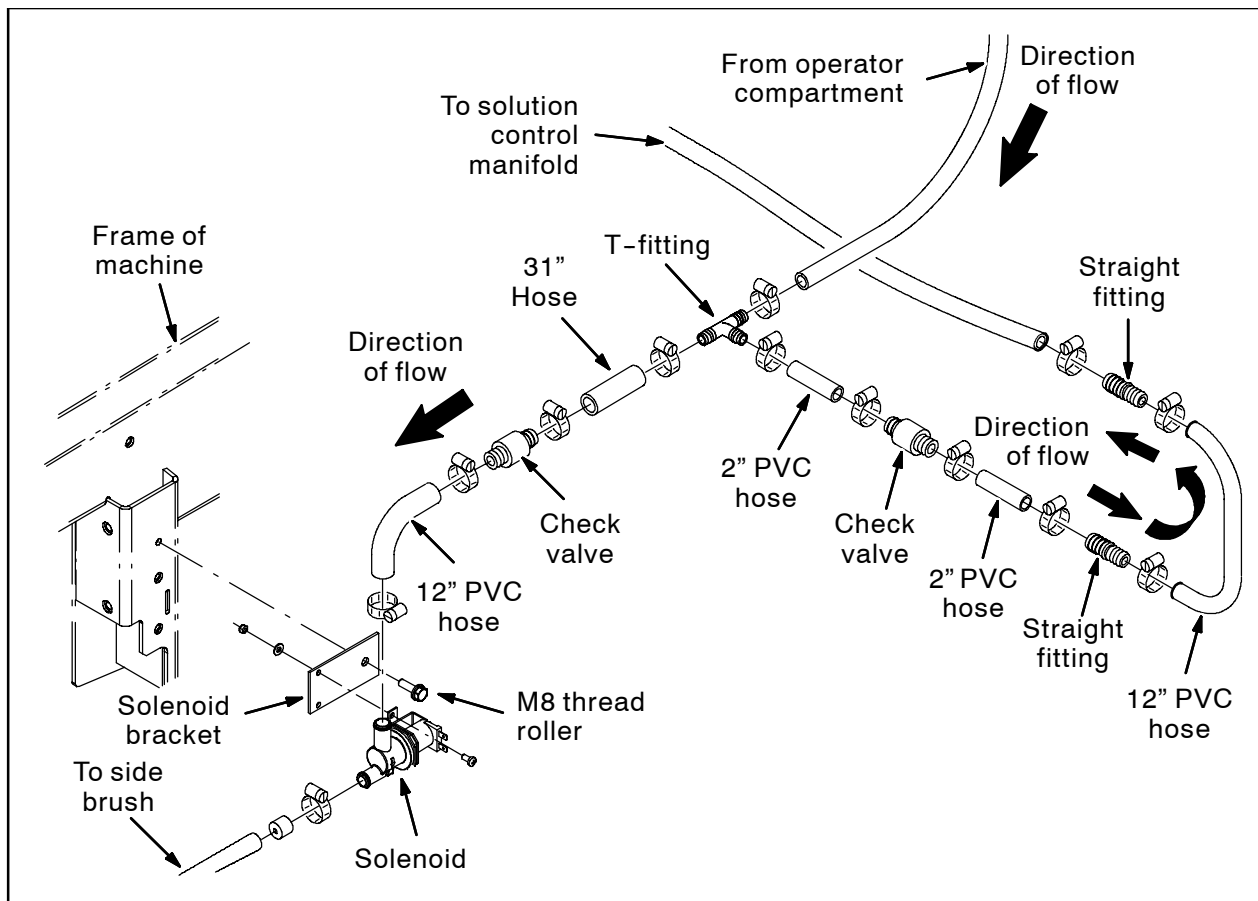

FIG. 4 - Machines With Optional Side Brush
12. Use two hose clamps to install a check valve between the 31" and 12" PVC hoses. Note the direction of flow. Refer to Fig. 4.
13. Use a hose clamp to install a t-fitting onto the 60" PVC hose. Refer to Fig. 4.
14. Assemble the check valve, straight fittings, 12" hose, and 2" hoses as shown in Fig. 4. Note the direction of flow.
15. Use a hose clamp to connect the previously assembled hose assembly to the t-fitting on the 60 PVC hose. Refer to Fig. 4.
16. Route the end of the 60" PVC hose with the t-fitting / additional hose assembly from the operator compartment and down to the scrub head. Refer to Fig. 4.
18. Use a hose clamp to connect the additional hose assembly to the solenoid. Refer to Fig. 4.
19. Use a hose clamp to connect a 20" PVC hose to the solenoid. Refer to Fig. 4.